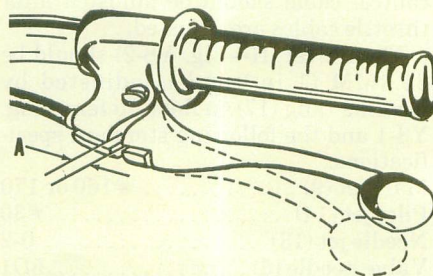
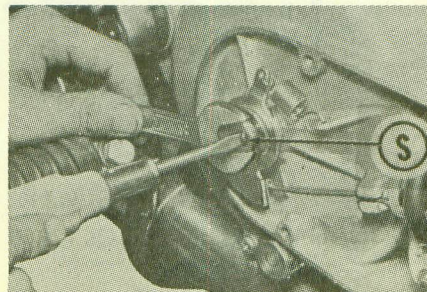

Fig. Y8-9—The clutch hand lever should have 2-3MM free play at (A).
Fig. Y8-10—The clutch adjusting screw (S) is located under the cover on right side of engine.
**CLUTCH CONTROLS.** The clutch hand lever should have 1/16-½ inch free play at (A—Fig. Y8-9). To adjust, remove the cover from right side of engine and loosen lock nut. Turn the adjusting screw (S—Fig. Y8-10) in until slight resistance is felt, then back screw out ¼ turn and tighten lock nut. Turn the cable guide at hand lever end of cable until the hand lever free play (A—Fig. Y8-9) is correct.